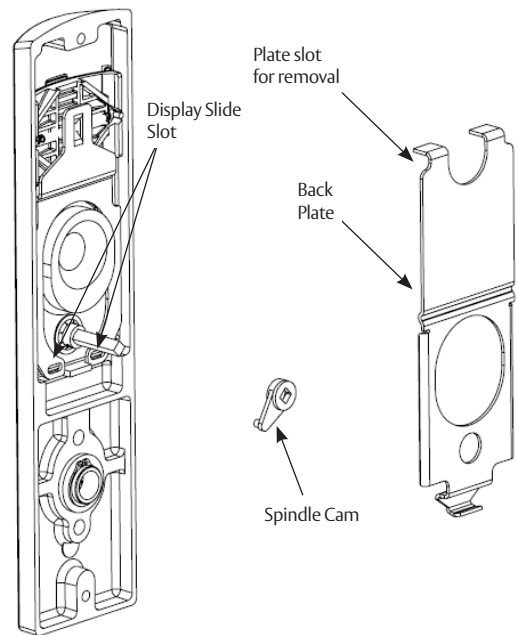

Figure 9
5. Slide spindle cam post into the correct slot of the display slide (Figure 9).